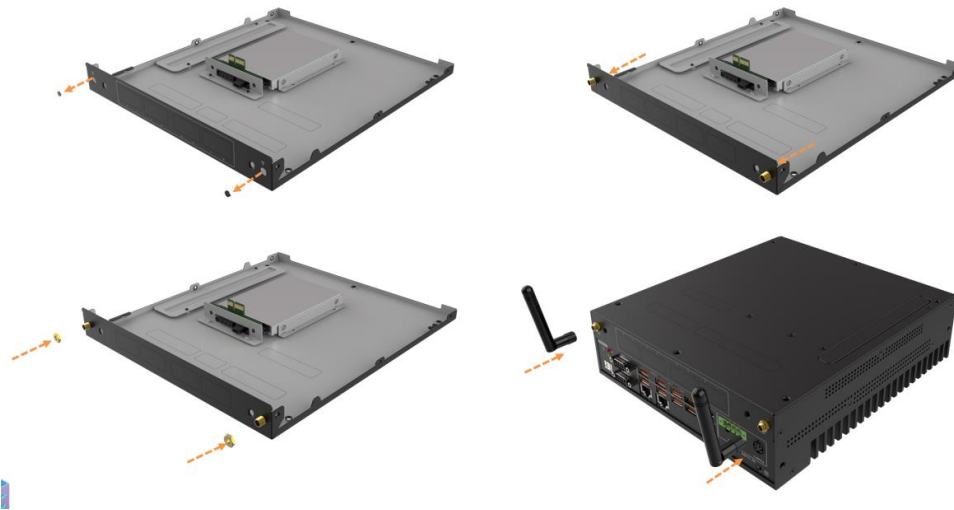

Figure 3-12: Wi-Fi Module and Wi-Fi Antenna Installation
- Step 5:** Install the external antennas (**Figure 3-12**)